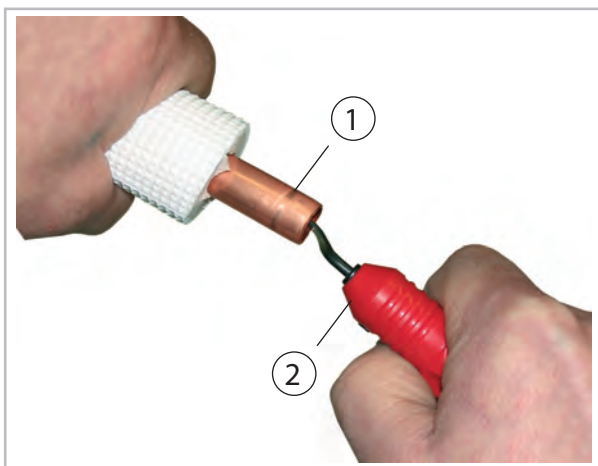
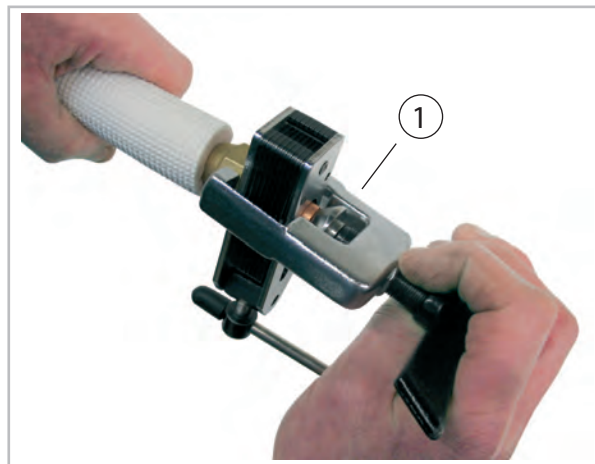

Fig. 38: Deburring the refrigerant piping
Fig. 39: Flanging the refrigerant piping
8. ➤ Prepare the laid refrigerant pipings as shown below (Fig. 38 and Fig. 39).